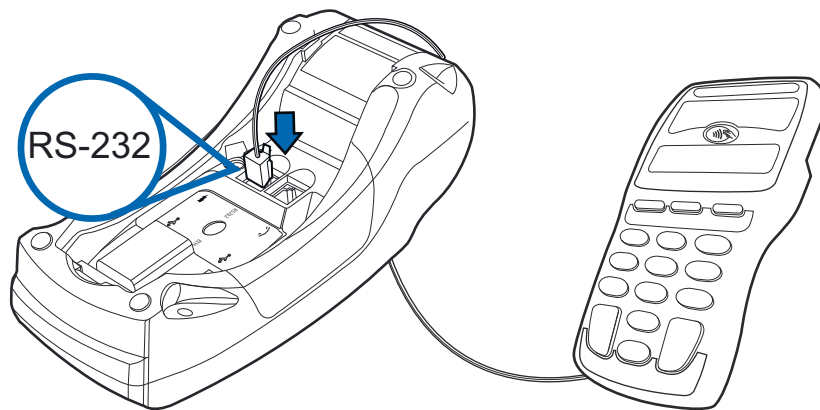

Figure 14 VX 520 Sample PIN Pad Connection
- 3 Insert the larger RJ-45-type connector on the other end of the PIN pad cable into the PIN pad serial port on the terminal. Figure 14 provides an example of a smart card reader and PIN pad connection to the PIN pad serial port.